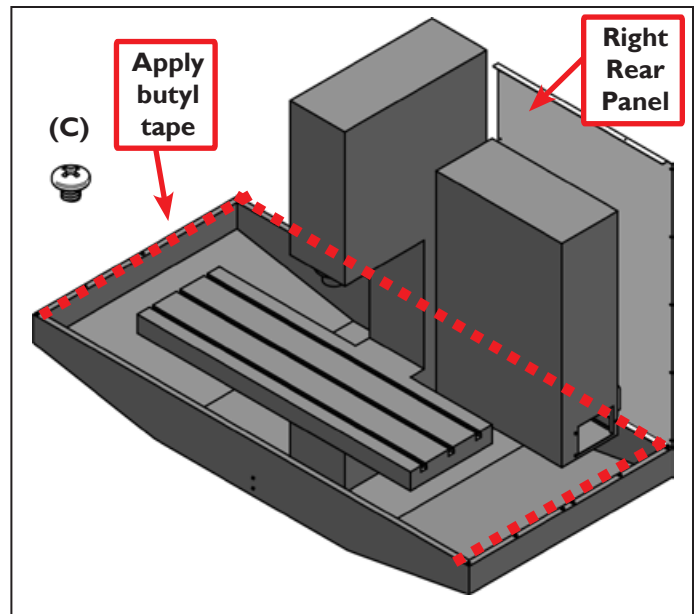

Figure 3
NOTE: Use butyl tape (included) to create a seal on the bed; test fit pieces prior to tape application (see **Figure 3**).
7. Place Right Rear Panel (E.25) on top of the right rear side of the machine stand (see **Figure 3**).